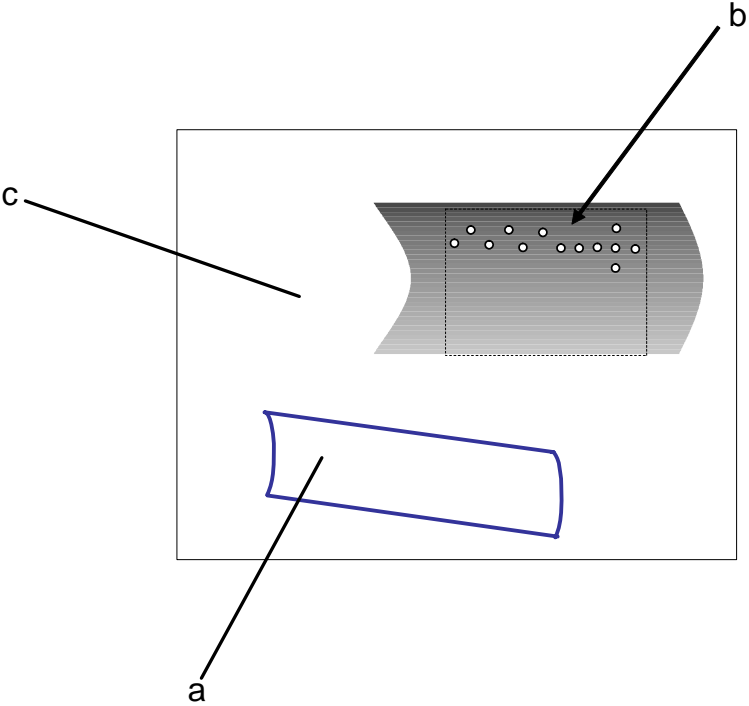

Figure 7: After ink application.
7. Squeegee the excess ink off the panel. See Figure 7.